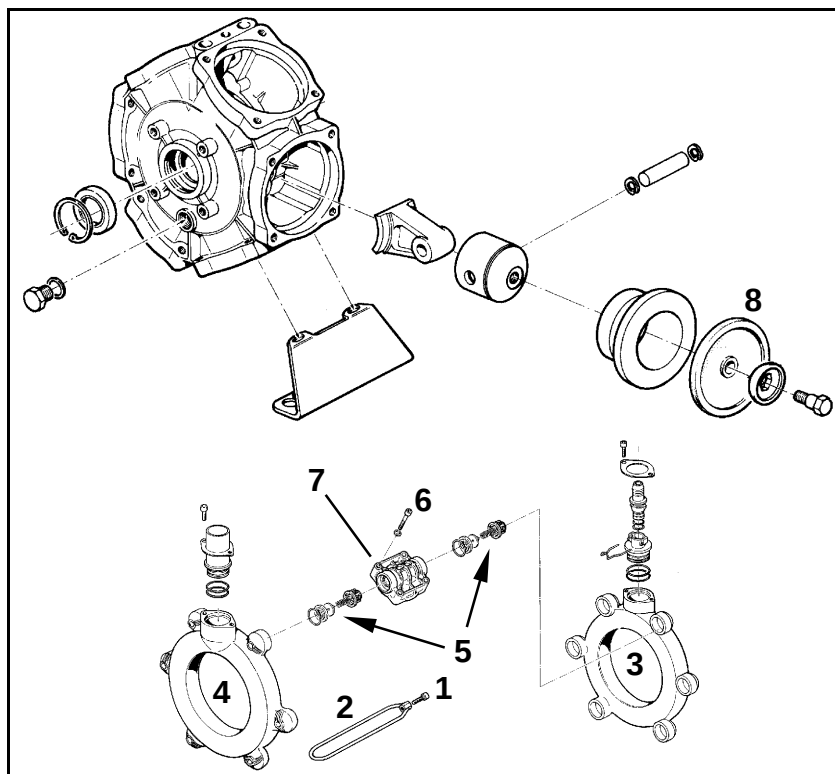

Fig. 122
- Check the piston diaphragms (Fig. 122/1) for their perfect condition at least once a year by dismantling.
- Before removing the valve groups (Fig. 122/5) bear in mind the position of the suction and pressure side valves.
- As a matter of principle exchange all 6 piston diaphragms (Fig. 122/6) even if only one piston diaphragm is swollen, broken or porous.
2. Slacken bolts (Fig. 122/1) and remove tensioning clamp (Fig. 122/2).
3. Take off suction and pressure channel (Fig. 122/3 and Fig. 122/4).
4. Take off valve groups (Fig. 122/5).
5. Remove the bolts (Fig. 122/6).
6. Take off the cylinder head (Fig. 122/7).
7. Check the piston diaphragm (Fig. 122/8).
8. Exchange defective any piston diaphragm (Fig. 122/8).